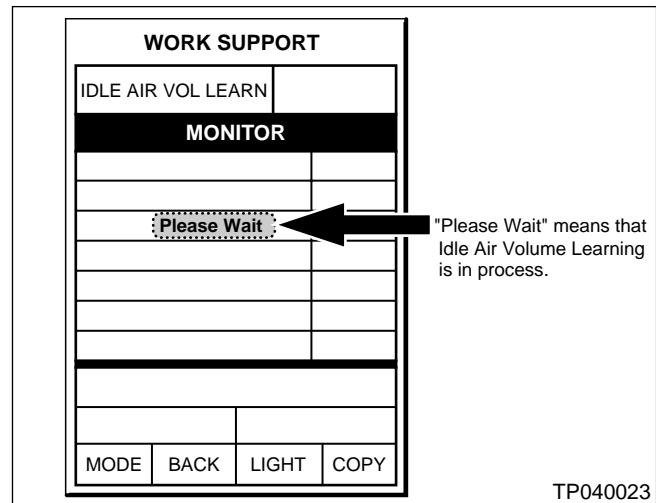

Figure 6
- CONSULT will display “Please Wait” in the center of the screen while the IAVL procedure is in process. See Figure 6.